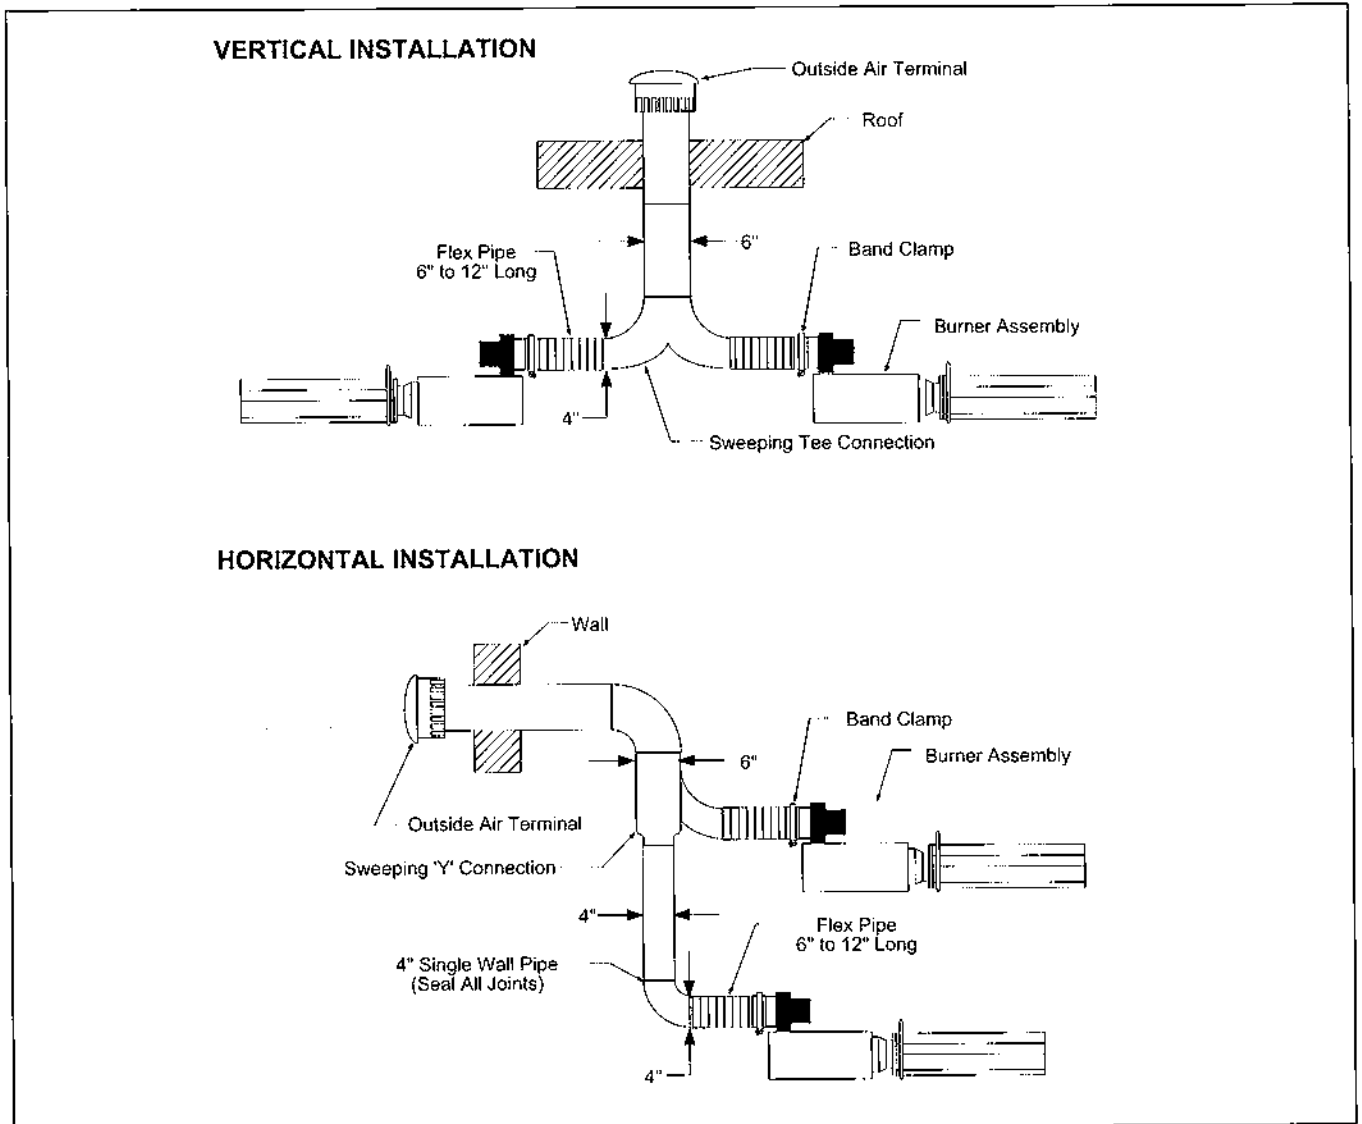

Figure 26b. Non-Pressurized Outside Air Supply for a Maximum of Two Heaters Controlled by a Common Thermostat
4. Combined length of the 4" and 6" pipe shall not exceed 45 feet (13.7 m) with 2 elbows maximum per unit (see Fig. 26b). See also Vent Length Requirements heading on pg. 23 for more detailed guidelines.